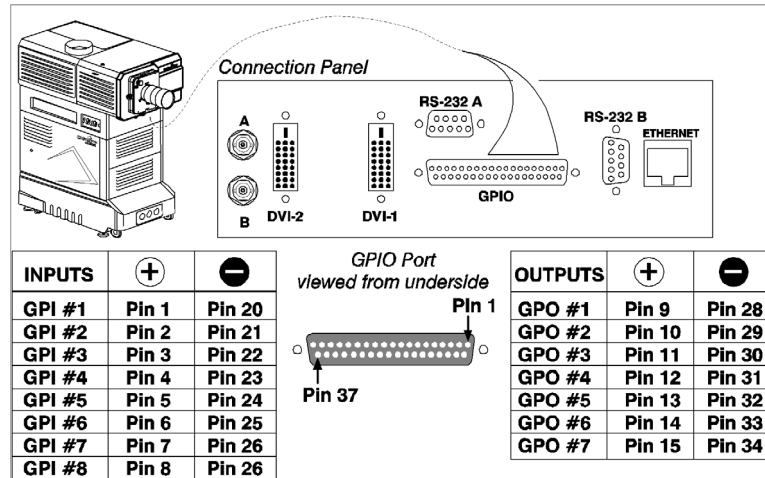
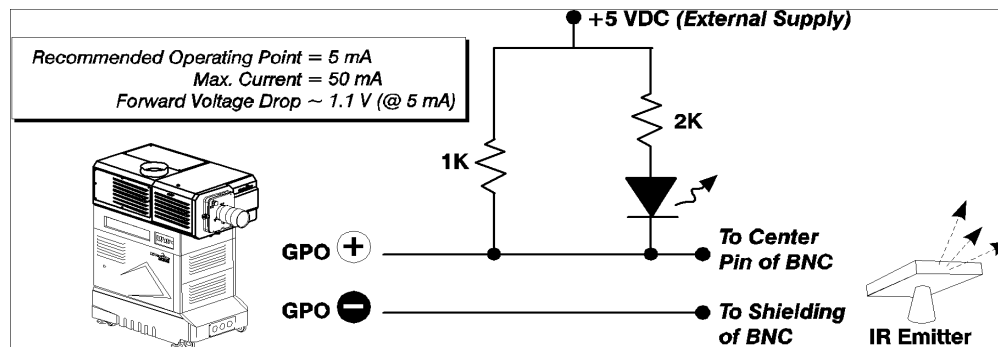

Figure D-1 GPIO Connector Pinouts
Figure D-2 Circuit for Power Supply
The 37-pin GPIO connector is located on the *Source and Communication Panel* located on the underside of the projection head near the front. It provides a flexible method of interfacing a wide range of external I/O devices to the projector, often so that an event on one device automatically triggers an event on the other. The pins on this connector that are configurable using the TPC's **Custom 3D Control** menu are identified in **Figure D-1**.
NOTES: 1) Pins not shown in **Figure D-1** are reserved for other uses, and cannot be specified at the TPC. **2)** Cable access is through the pedestal "toe" at front.
If you are wiring your own GPIO cable for use with a server or 3D device such as an IR emitter or a polarizer, follow the circuit diagram in **Figure D-2**.
1. Assemble a cable according to guidelines shown in **Figure D-1** and **Figure D-2**.
3. In the TPC's **Custom 3D Control** menu, set **Output GPO** according to the pins wired in the GPIO cable (see **Figure D-1**). For instance, if you have wired pins #10 (+) and #29 (-) to your 3D device, set **Output GPO** to GPO #2.